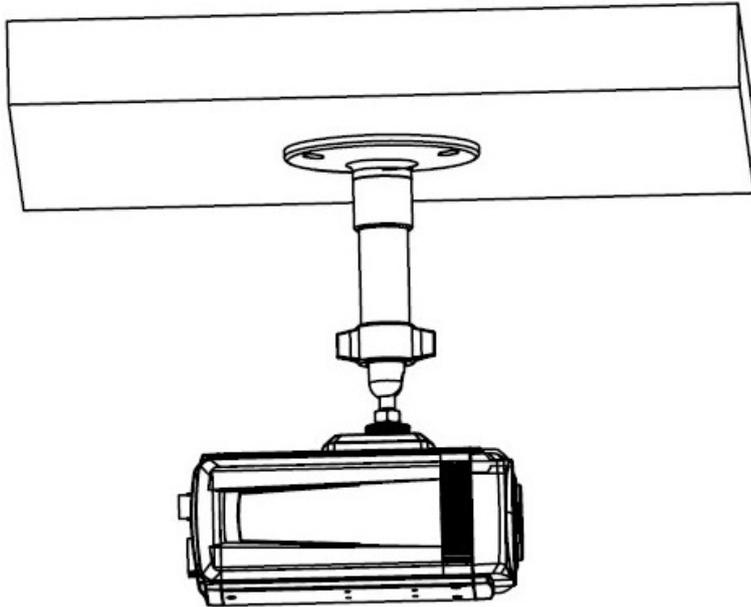

Figure 2.1 Install the Camera
1. Select the mounting mode and mount the corresponding camera bracket. For cement wall application, the expansion screws must be installed firstly (the mounting holes of the expansion screws should align with those in the mounting bracket), and then install the mounting bracket, as shown as figure 2.1. For wood wall application, directly use the self-tapping screws to install the mounting bracket to the wall. Please note that the mounting wall must be capable of supporting three times the sum weight of camera and mounting bracket.